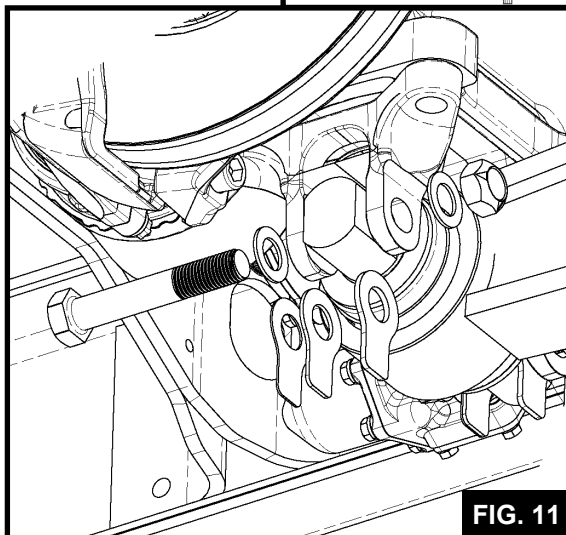

FIG. 11
- 6.7** Remove the 1" bolt and nuts connecting the walking beam to the axles (**See FIG. 11**).